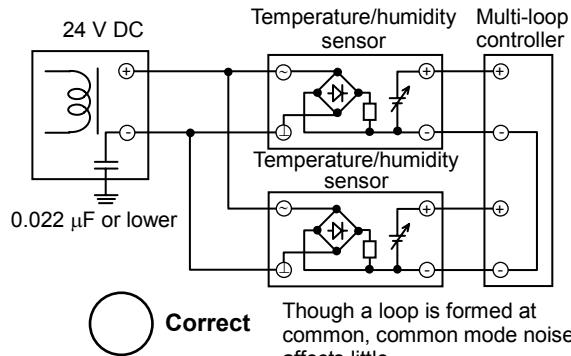

Figure 21. Correct wiring: shared 24 V DC transformer
- \* Fig. 21 shows wiring example of Model HY78X3T.